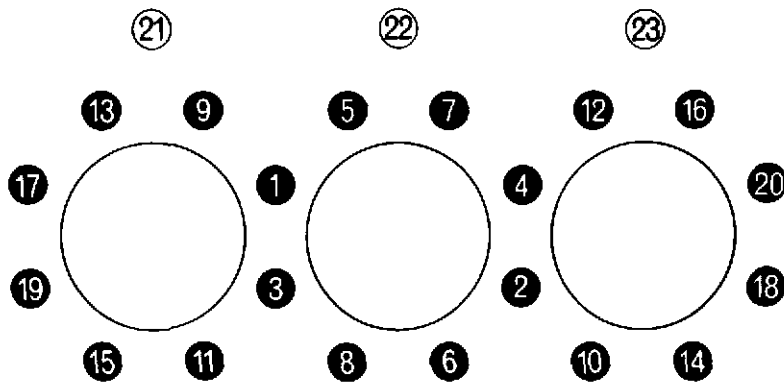

Fig. 16 Cylinder head tightening sequence
- 90 Tighten each setbolt and nut in steps of 50 Nm (37 lbf.ft.), in the sequence shown in figure 16, until the correct torque loading is achieved